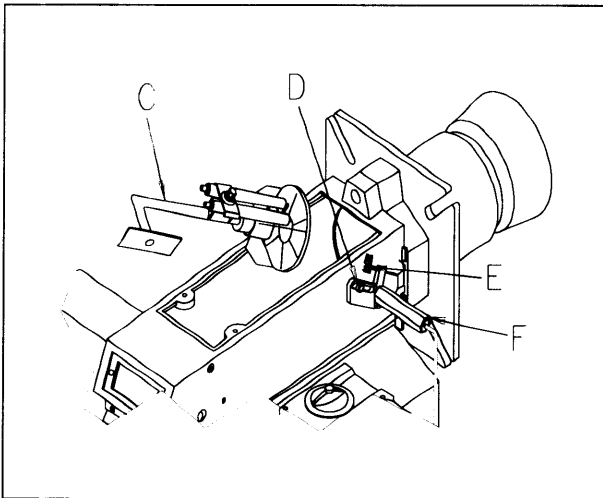

Figure 22-5
8. Pull the nozzle assembly to check the ignition electrodes. See Figure 22-5 & 22-8, pages 7 & 8.